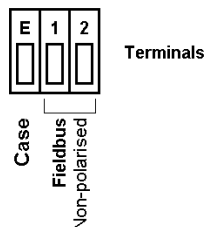

Fig 3 Installation and terminal connections
- c. Connect the panel wiring to the rear terminal block as shown in Fig 3. To simplify installation, the terminals are removable so that panel wiring can be completed before the instrument is installed. To prevent vibration damage **ensure that panel wiring is supported.**